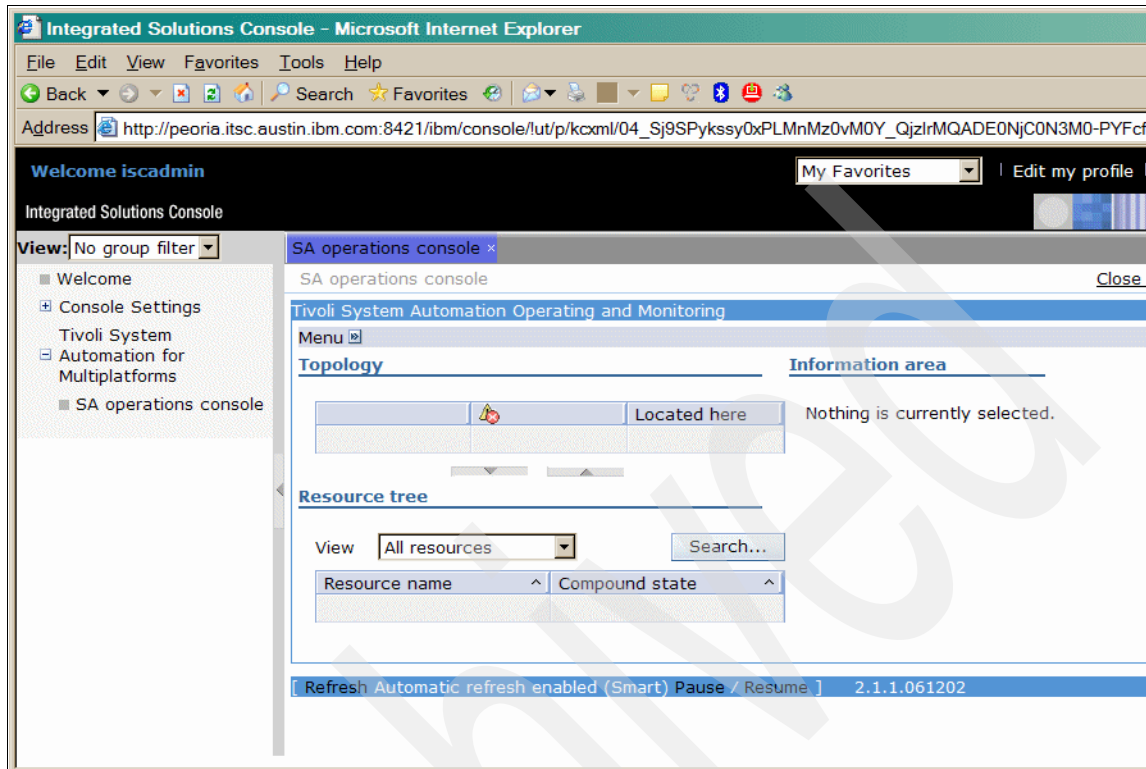

Figure 4-5 Loading topology
- f. We keep the defaults and click **OK**, and then see the window in Figure 4-5 on page 79.